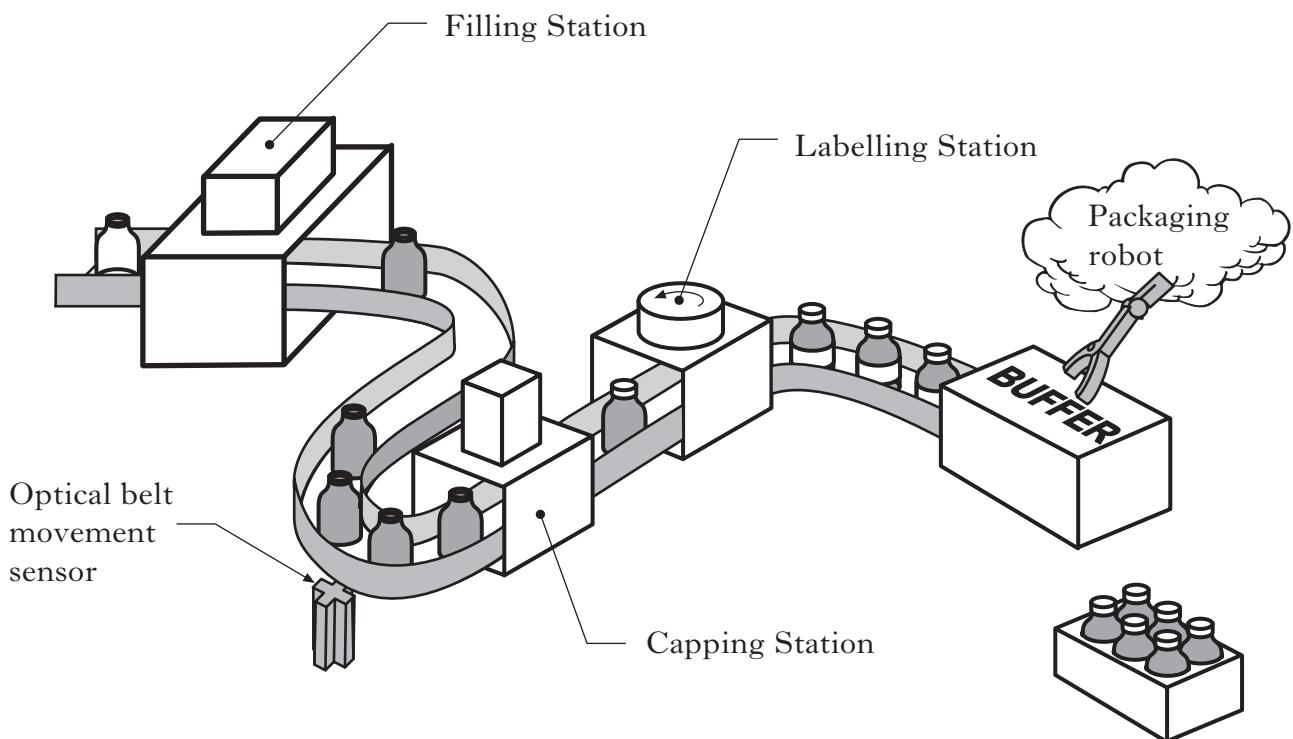

Figure Q12
12. Figure Q12 shows a schematic diagram of a filler, capper, labeller and packaging robot used as part of a drinks bottling plant.